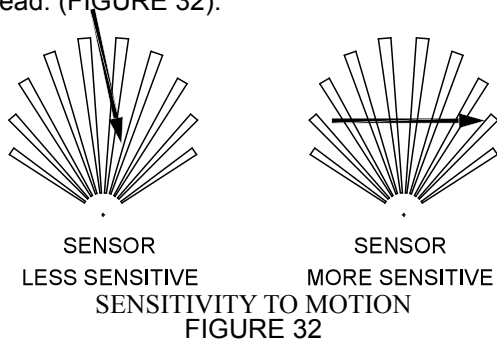

FIGURE 32
- The motion sensor is more sensitive to objects moving across its field of view. It is less sensitive to an object moving directly towards the sensor head. (FIGURE 32).